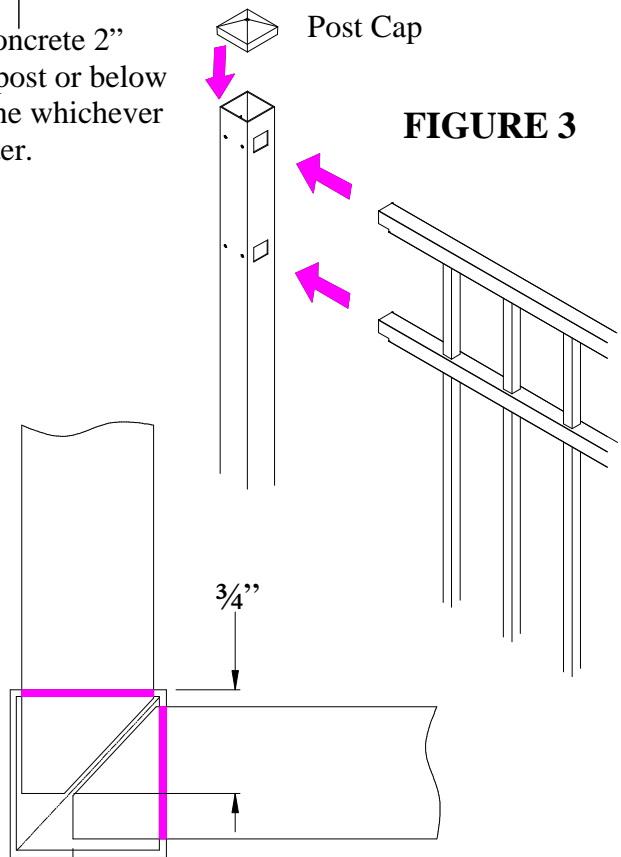

FIGURE 3
- 2.1. Use a rubber mallet to drive the post caps onto the posts. Be careful not to damage the post or caps. See Figure 3.
- 2.2. Working out from where the gates are installed slide a section of fence into the gate post holes and into the next post. See Figure 3. Fence sections must be inserted entirely into the post to meet code.